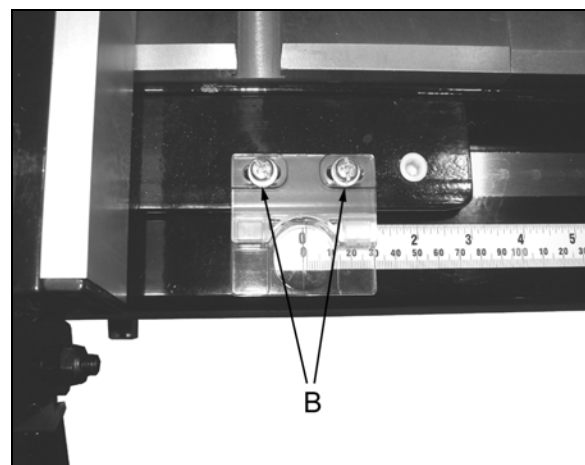

Figure 9
3. Looking at the right side scale reader, the red pointer should match up with the zero mark. If not, loosen the two screws, A, Figure 9 and slide the viewer to align the mark with zero. Tighten the screws.